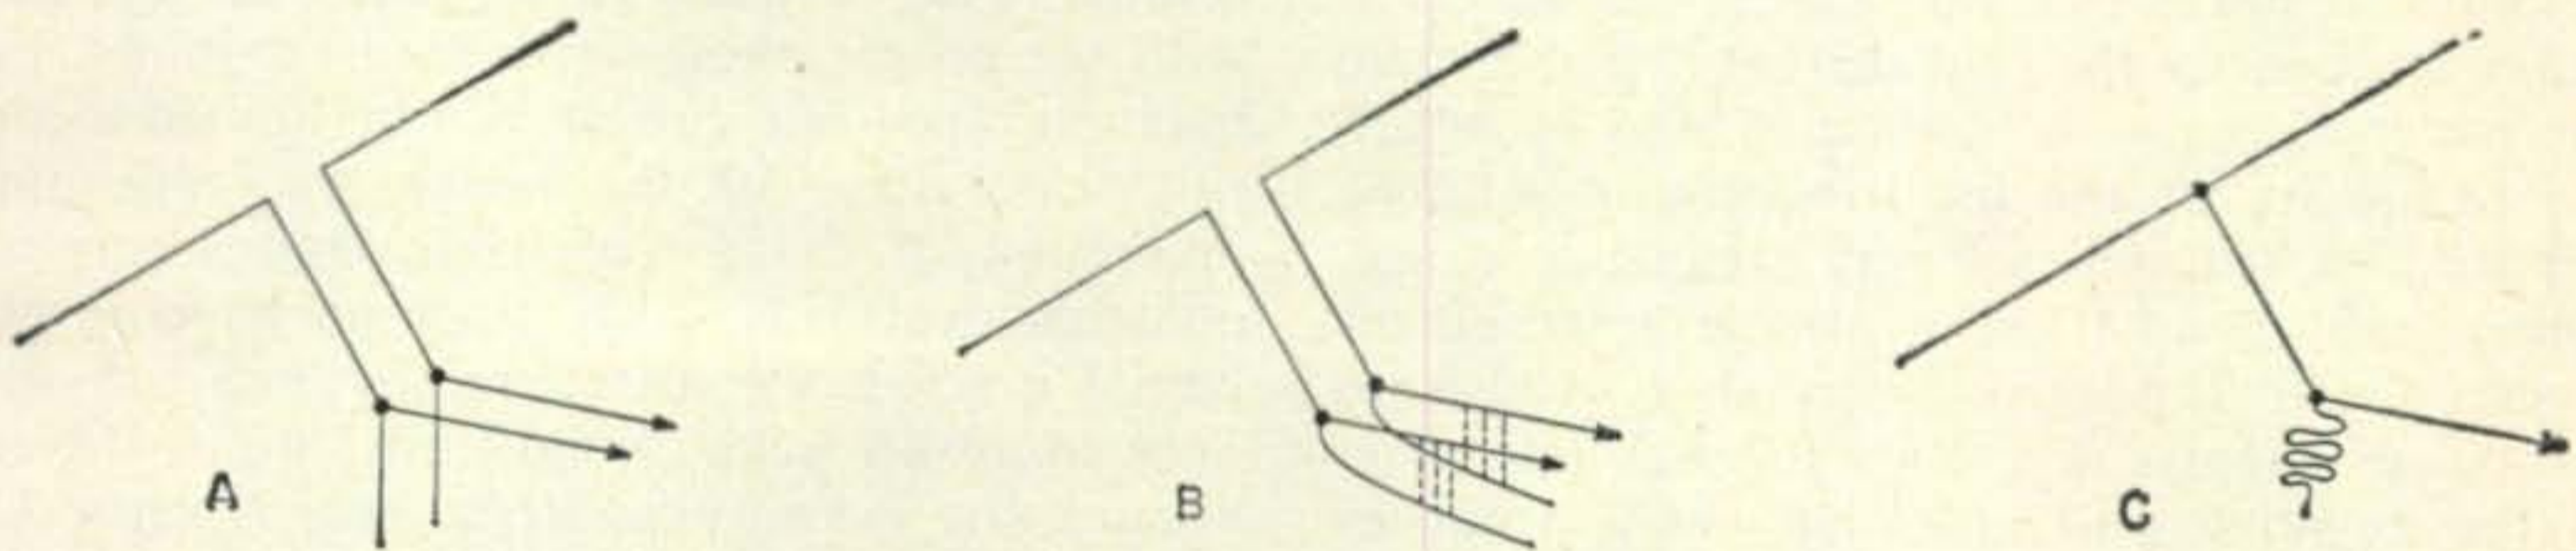

Fig. 4—Three methods of handling the open stub.
The "tail" of the stub (fig. 4) can be left hanging down as in (A), tied under the feeder as in (B), or folded together at the feedpoint, (C). Don't fold it too tightly.